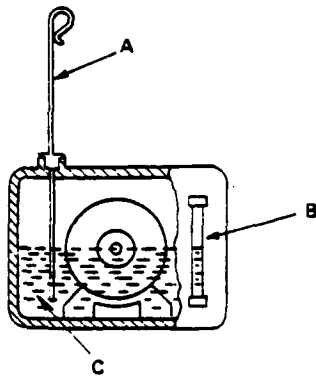

Figure 1
Write the name of each lettered part for Figures 1, 2 and 3:
7. Figure 1